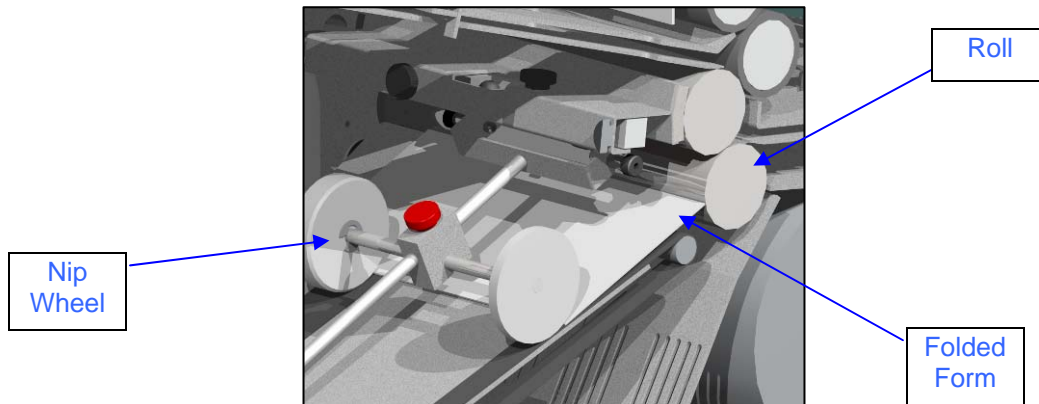

Figure 16: Nip Wheel Adjustment
2. Adjust the **nip wheel** so that it is ½" from the other side of the folded form. (See Figure 16)